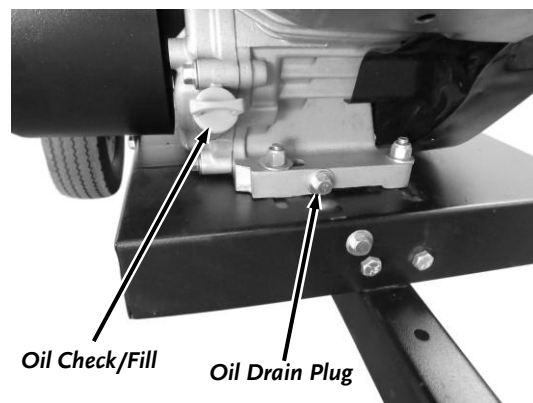

Figure 29
1. Position a suitable oil receptacle under the Engine Oil Drain Plug and remove the Engine Oil Check/Fill Dipstick (**Figure 29**).